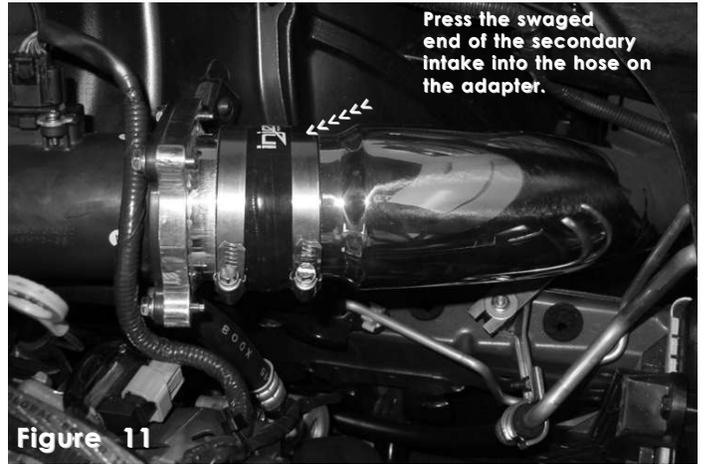

Figure 11
10. Press the swaged end of the intake into the 3" straight hose on the adapter. Align the bracket on the intake to the vibra-mount stud and use the m6 nut and fender washer to secure the intake in place. Once the intake has been aligned semi-tighten the clamp on the 3" hose and the m6 nut on the vibra-mount. (See figs. 11, 12 and 13)